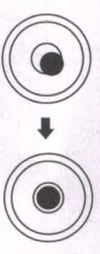

Fig. 4
- (4) Turn footscrews and centre the bubble (Fig. 4).